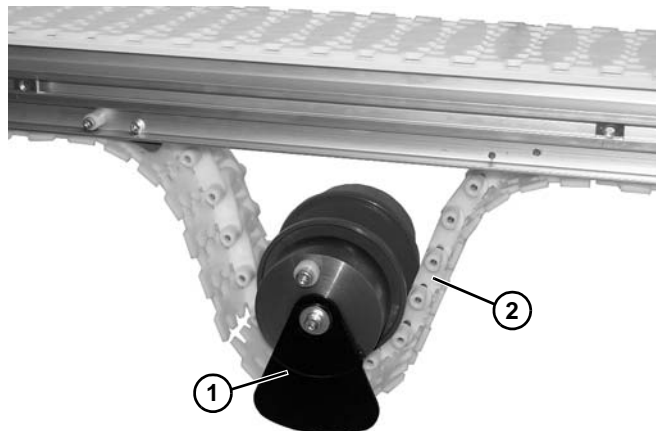

Figure 159
11. Install idler pulley assembly (**Figure 159, item 1**) onto conveyor in belt loop (**Figure 159, item 2**).